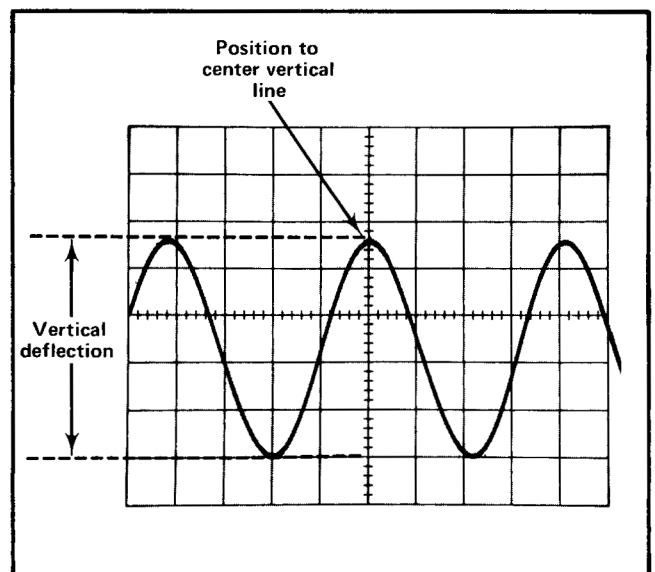

Fig. 2-17. Measuring peak-to-peak voltage of a waveform.
6. Turn the vertical POSITION control so the lower portion of the waveform coincides with one of the graticule lines below the center horizontal line, and the top of the waveform is on the viewing area. Move the display with the horizontal POSITION control so one of the upper peaks lies near the center vertical line (see Fig. 2-17).
Example. Assume a peak-to-peak vertical deflection of 4.6 divisions (see Fig. 2-17) using a 10X attenuator probe and a VOLTS/DIV switch setting of .5.